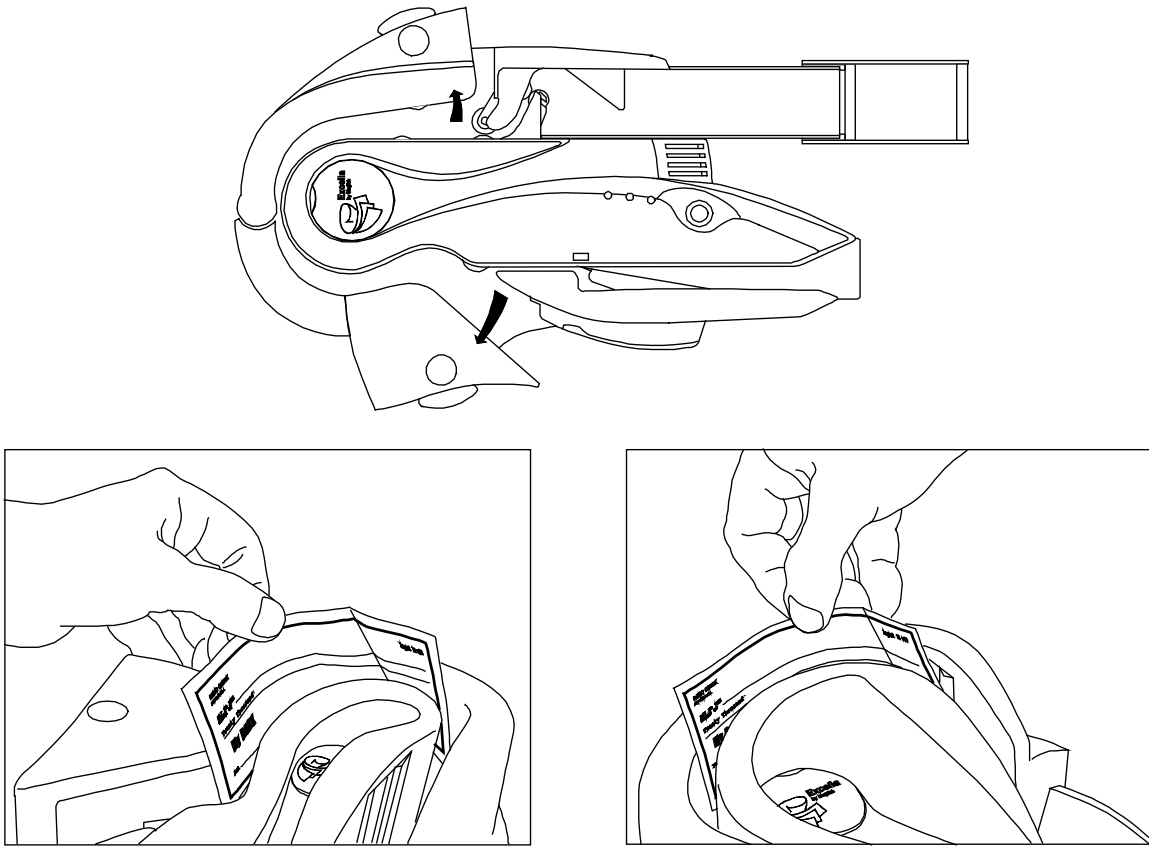

Figure 3-7. Clearing Debris or Removing Checks
1. Open both **Outside Entry and Exit Guides** as shown in Figure 3-7.